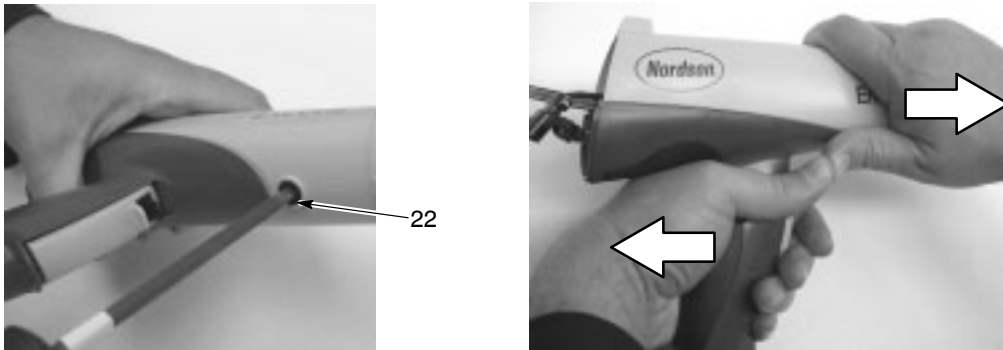

Figure 6-2 Removing the Gun Body from the Handle
4. See Figure 6-2. Remove the black nylon screw (22) from the gun body.